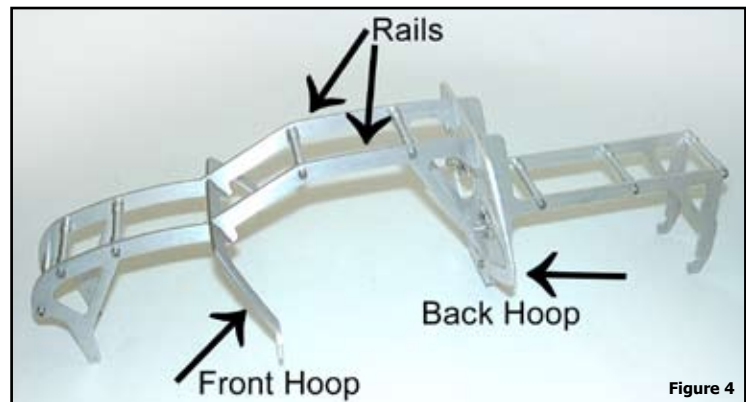

Figure 4
4. Assemble the roll cage as shown in *Figure 4*. The cage